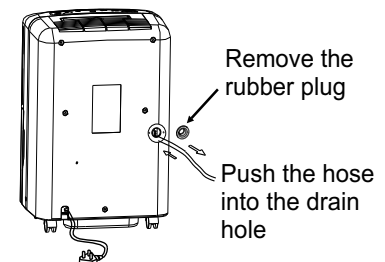

Fig.8
- Remove the rubber plug from the back of the unit and store it in a safe location (see Fig.8).